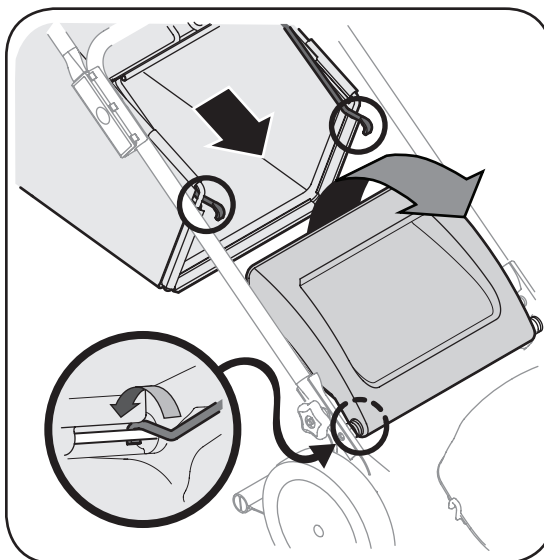

Figure 3-5: Attach the grass catcher.
- c. Place grass catcher on the pivot rod. Let go of discharge door so that it rests on the grass catcher. See Figure 3-5.